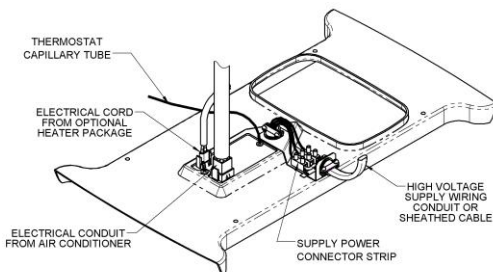

Figure 7
ROUTING 230/240 VAC Wiring – See Figure 7
- Raise the ceiling assembly chute and insert the supply wiring through the cable clamp and into the wiring box so that 10-15cm of supply conductor is inside the box. Secure the cable clamp over the supply wire sheath so that no movement is possible (See Figure 7).
- Plug the Air Conditioner electrical conduit into the 9-position receptacle as shown in Figure 7.
- If the optional heater accessory package is being installed, remove the cover from the 2-position receptacle and plug the heater cord into the receptacle as shown in Figure 7.